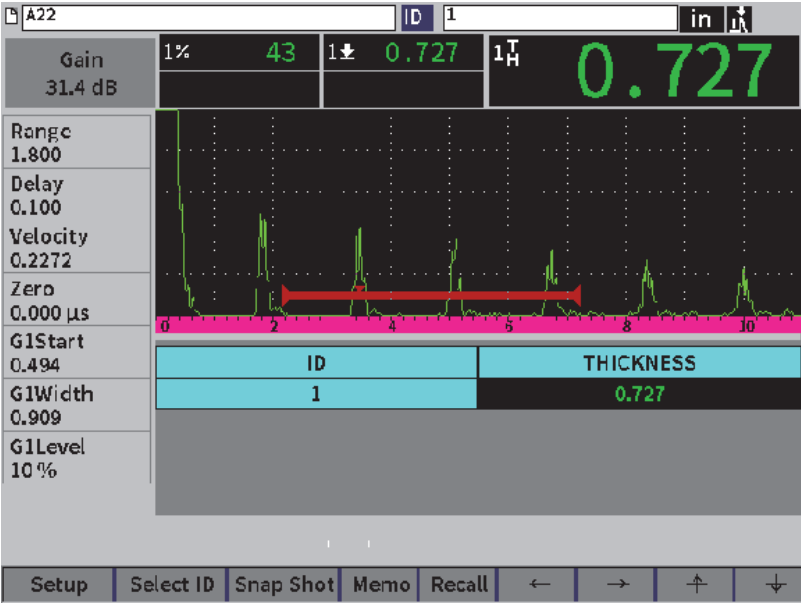

Figure 9-27 Grid controls in a saved file
5. Press the Tab key to move to the **Select ID** button to highlight and select a specific ID for viewing (see Figure 9-27 on page 155).